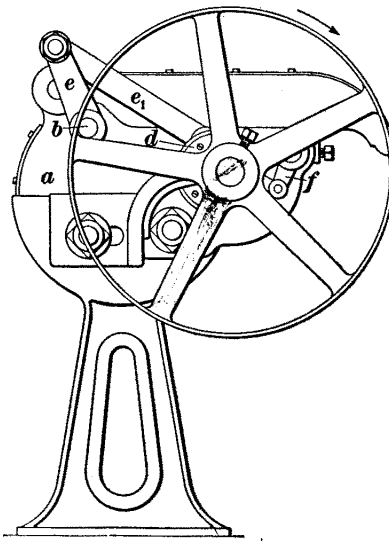

FIG. 2
13. Sargent Oiler.—Another machine for automatically oiling wool is shown in Figs. 2 and 3, its object being to lubricate the stock as it passes into the feed-